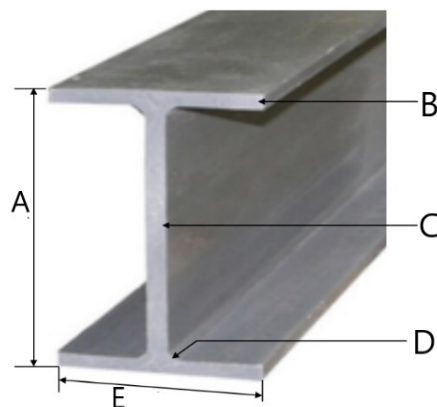

FIGURE 2
- 2.2 FIGURE 2 shows a sectional view of a rolled steel joist.